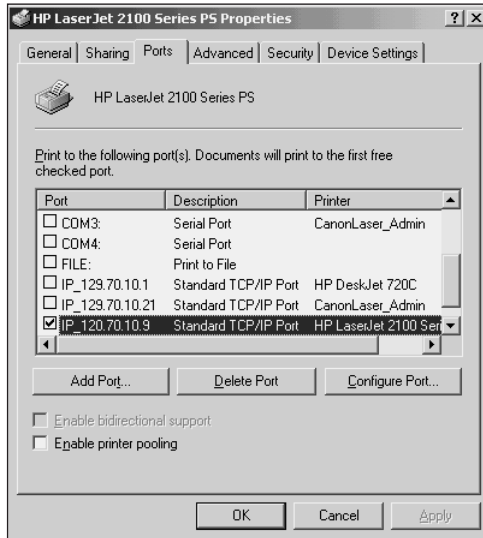

Figure 11-16 The new TCP/IP port
15. The printer's Properties dialog box has a new port listed, which has the port name you provided and the description Standard TCP/IP Port (see Figure 11-16). You can change the IP address and other configuration information by clicking the port and then clicking the Configure Port button.